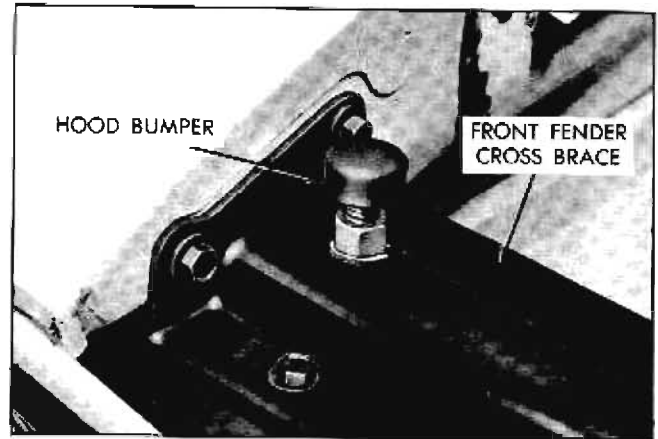

Fig. 10-6 Hood Bumper
2. Raise or lower hood bumpers on front fender cross brace. (Fig. 10-6).